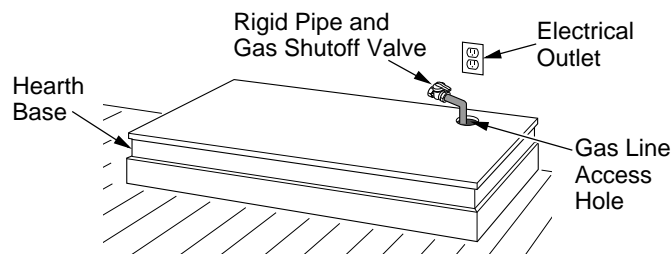

Figure 30 - Placing Hearth Base Accessory Against Wall
2. When installing blower, install a properly grounded, 120 volt three-prong electrical outlet at fireplace location if an outlet is not there. If possible, locate outlet so cabinet mantel will cover it when installed (see Figure 30).
4. Place hearth base accessory against wall at installation location. Cut an access hole in hearth top to run flexible gas line to fireplace (see Figure 30). Make sure to locate access hole so cabinet mantel will cover it when installed. **Note:** You can secure base to floor using wood screws. Countersink screw heads and putty over.